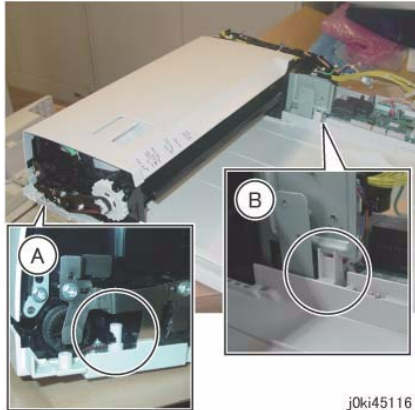

Figure 4 Check the following (A) and (B)
3. When installing the DADF Feeder Assembly to the Base Frame, check the following A and B. (Figure 4)
- (A) At the front: The Frame of the DADF Feeder Assembly is attached to the positioning pin of the Base Frame as shown in the figure.
- (B) The Bracket of the DADF Feeder Assembly is attached to the support of the Base Frame as shown in the figure.